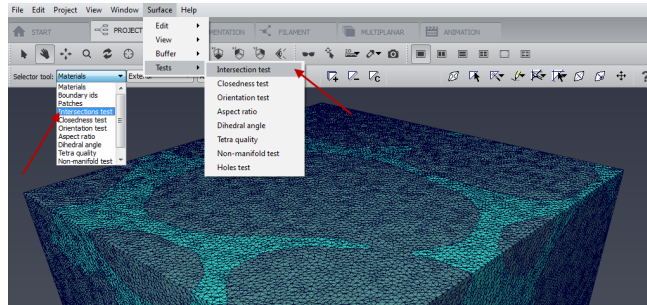

Figure 5.19: *Surface Editor* intersection testing submenu.
- Open the *Surface* menu and in the *Tests* submenu, select *Intersection test*. You can alternatively pick the *Intersection test* in *Selector tool* of the tool bar (see Figure 5.19).